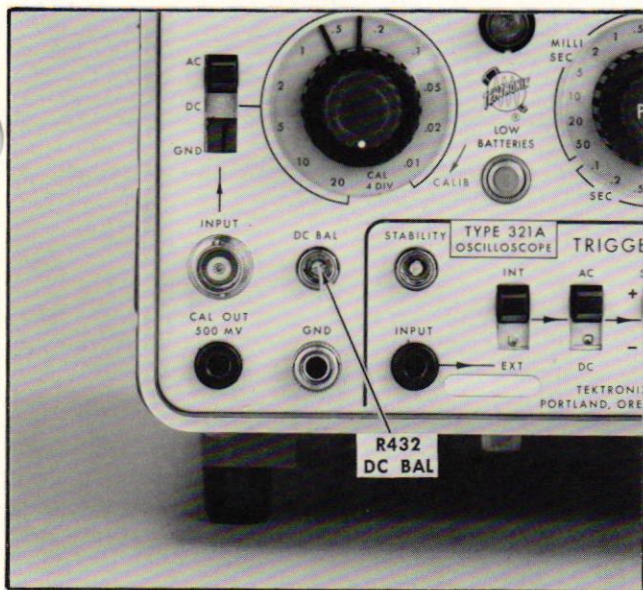

Fig. 5-5. Location of DC BAL adjustment (front panel).
e. ADJUST—DC BAL adjustment R432 (see Fig. 5-5) for minimum trace shift as the VARIABLE VOLTS/DIV control is rotated.